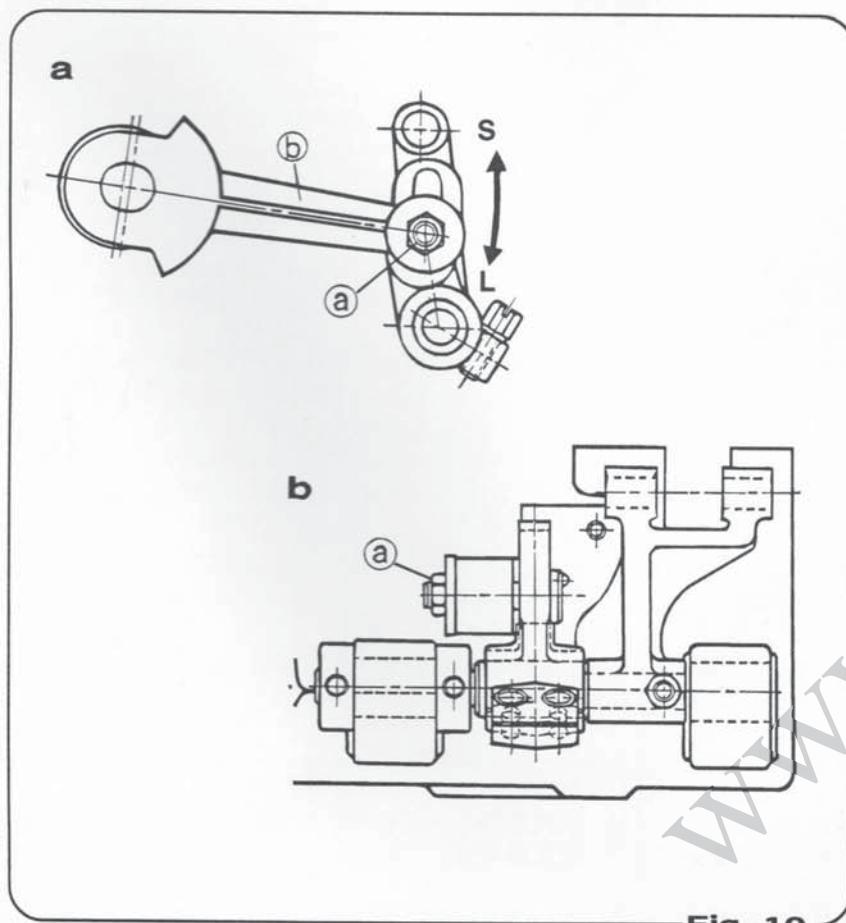

Fig. 10
Loosen the nut ② of the feed regulator and move the feed connecting rod ③ in the direction of S, as shown in (Fig.10), to decrease the stitch width, and move the rod in the direction of L to increase the width. When moving the feed connecting rod, do so after confirming that the feed connecting rod can move freely along the slot in the feed rocker (Rotate the pulley in the forward direction until the feed dog is in the forefront position).
从工厂出货时，这针距调为10mm。针距调节要领，请参看(图10)